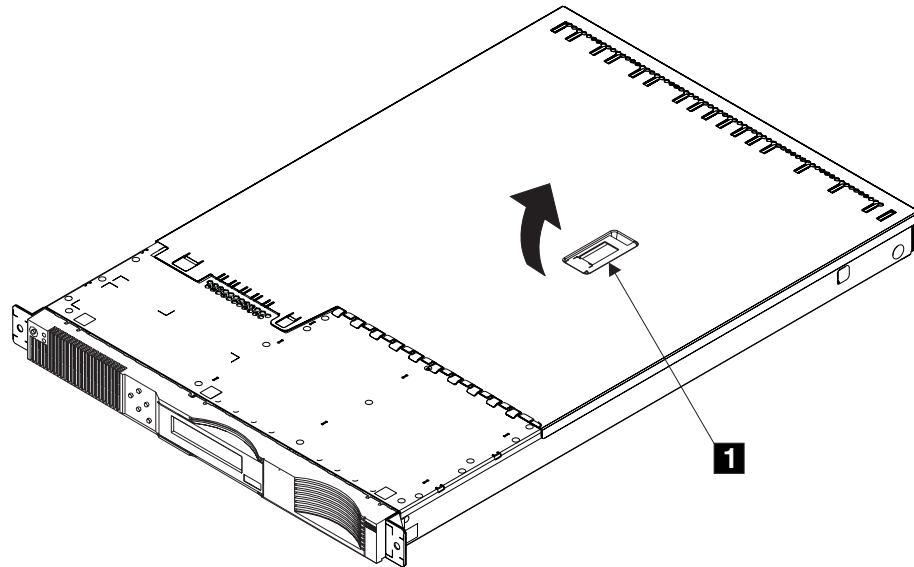

Figure 54. Removing the SAN Volume Controller 2145-4F2 cover
3. Lift the lever (**1** in Figure 54). This action moves the top cover rearward approximately 13 mm (0.5 in).